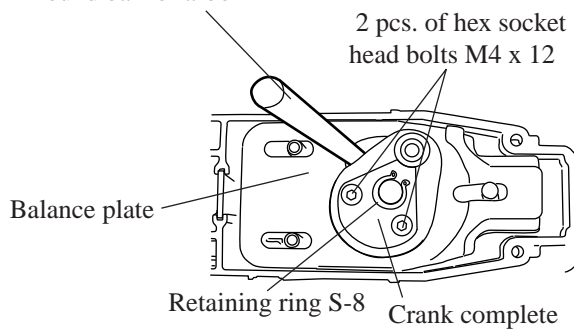

Fig.19
2. Locking crank complete with something bar-formed metal, unscrew 2 pcs. of hex socket head bolts M4 x 12 as illustrated in Fig.19.